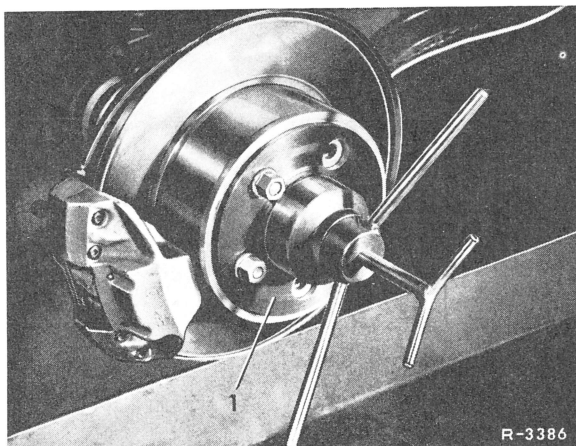

Fig. 3
- 2 Force rear axle shaft out of rear axle shaft flange with fixture (Fig. 3).